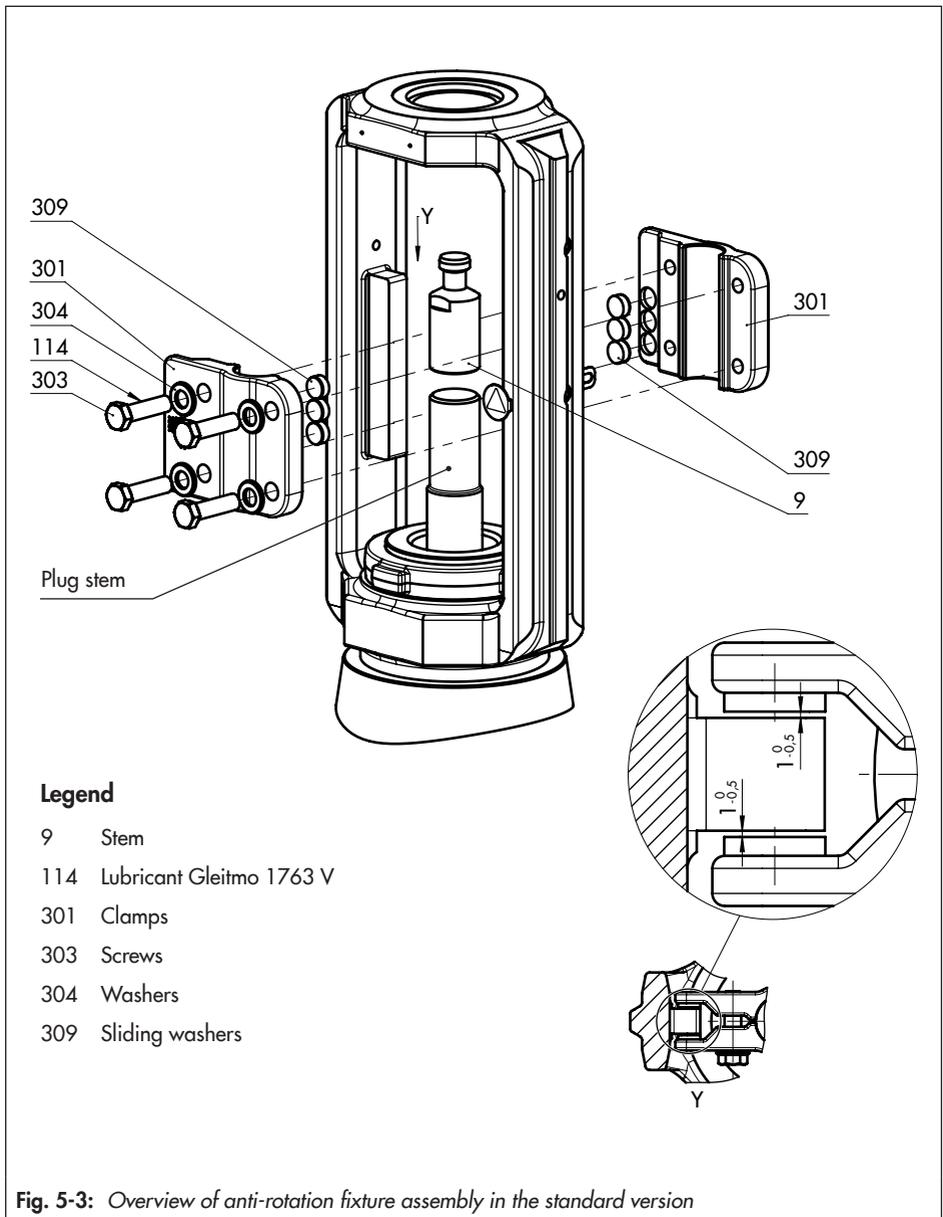

Fig. 5-3: Overview of anti-rotation fixture assembly in the standard version
See Fig. 5-2 and Fig. 5-3
- There is a nominal clearance of 0.5 to 1 mm between the sliding washers and their contact surface on the yoke on each side (see detailed view Y in Fig. 5-3).